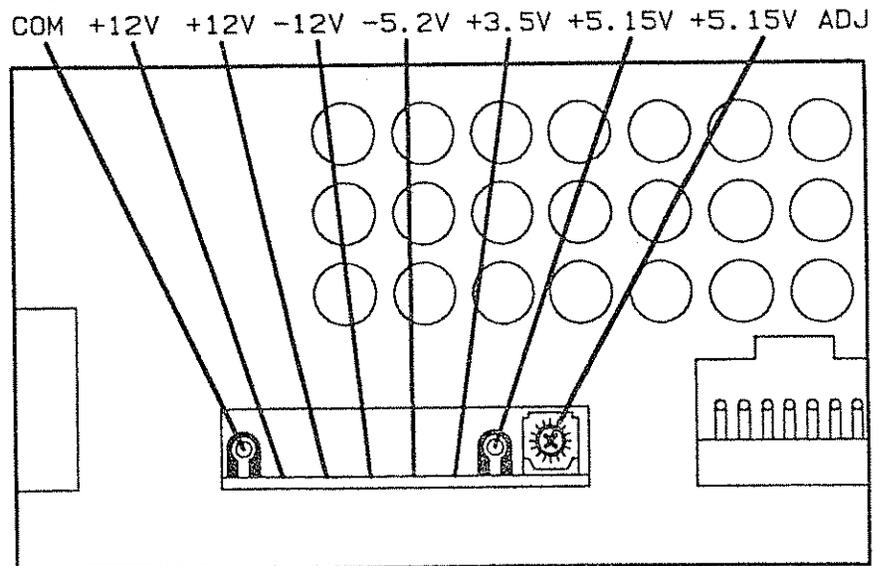

Figure 2-28. A5 Power Supply Test Points
16. Next to the position where cable W27 connects to the A5 Power Supply, measure the voltage on each pin. See figure 2-28. The voltages should be as shown in figure 2-28. If any of the voltages are not as shown, go to "To Troubleshoot the Power Supply," in this chapter. If the voltages are as shown, continue with the next step.